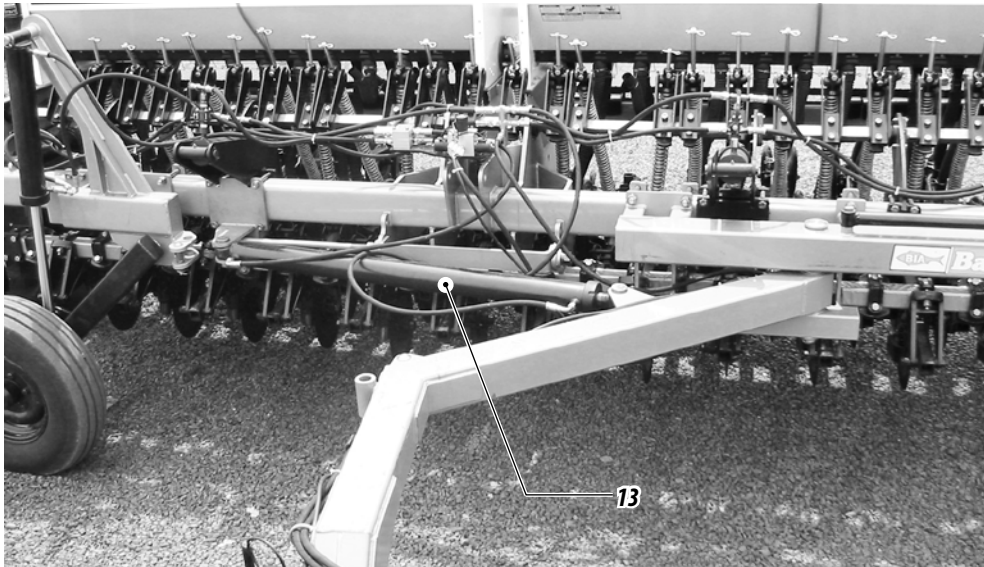

Figure 44
09 - Operate the hydraulic piston (13) to open the header using switch # 3 of the panel, figure 44.